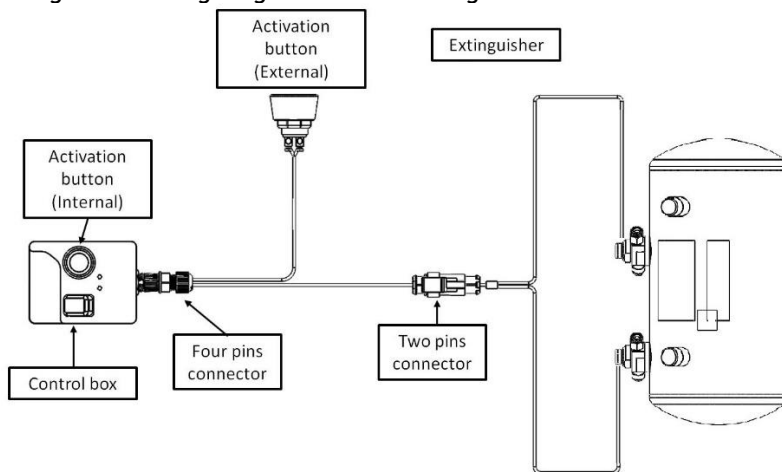

Fig. 9 Electrical connection
1. make a sign on the right measure on the tube to be pushed into the connector (figure 9)